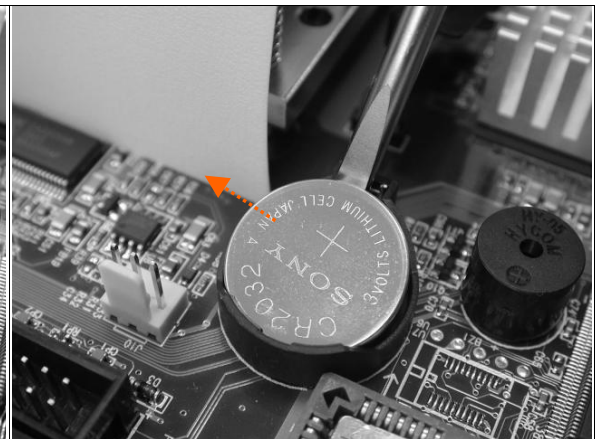

Fig. 2-7
2. The battery springs automatically. (**Fig.2-7**)